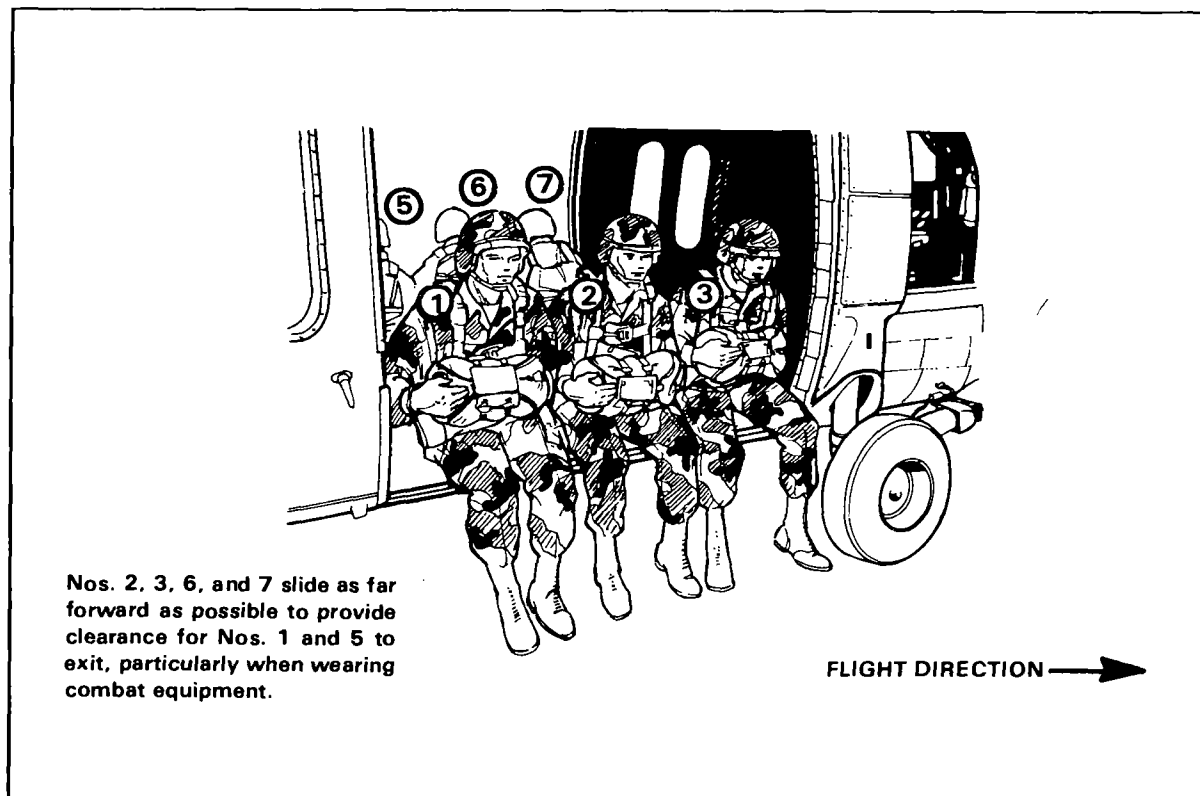

Figure 12-15. Nos. 1, 2, 3, 5, 6, and 7 exit positions.
- e. **SIT IN THE DOOR.** This command is given by the jumpmaster at the 30-second warning. Nos. 1, 2, 3, 5, 6, and 7 assume door positions (Figure 12-15) with feet together outside the cargo compartment. Nos. 4 and 8 remain in place, ensuring that their